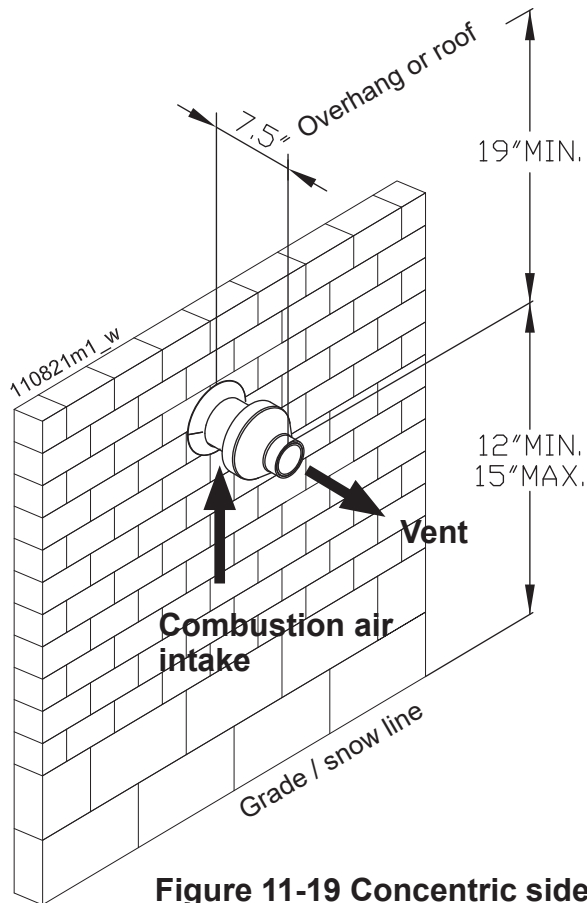

Figure 11-19 Concentric sidewall termination clearances
The termination kit must terminate outside the structure and must be installed as shown in Figure 11-19.
- 1.- Determine the best location for the termination kit (see Figures 11-19 and 11-20);
- 4.- Cut one (1) hole 5 inch diameter into the structure to install the termination kit;
NOTICE! Ensure termination location clearance dimensions are as shown in Figures 11-19 and 11-20.